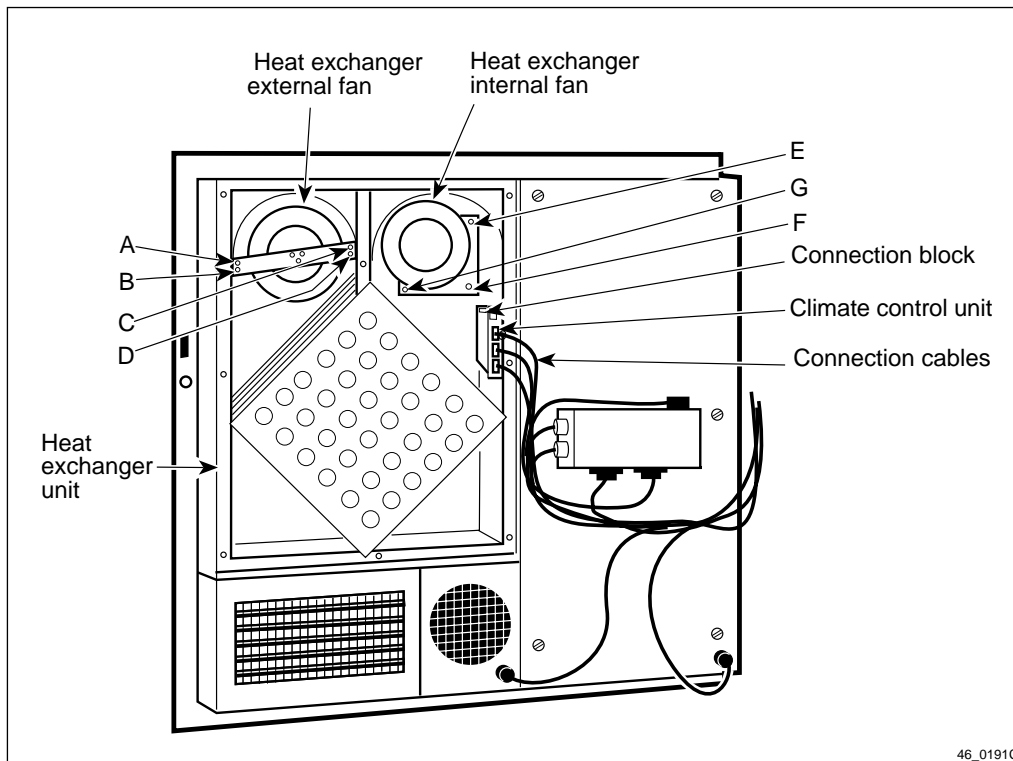

Figure 181 Climate unit versions V1 and V2. Heat exchanger fans
4. Unscrew screws E-F-G, see Figure 181 on page 316.